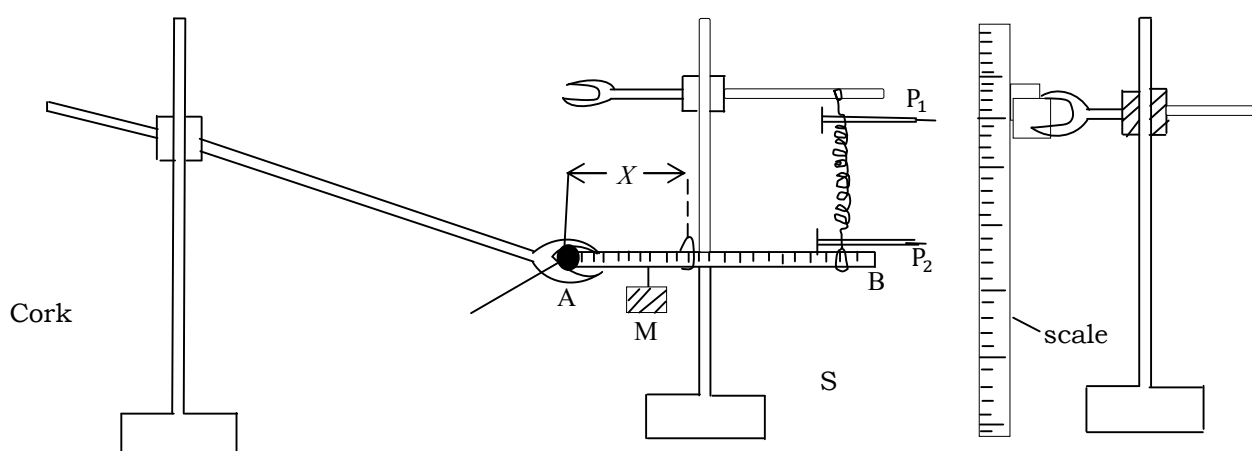

Fig. 1
- (h) Tie the free end of the spring to the metre rule at the 99.0cm mark as shown in figure 1.